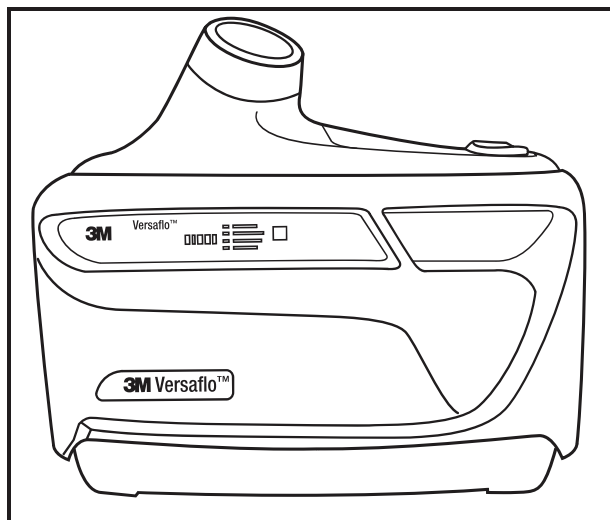

Fig. 14 3M™ Versaflo™ Powered Air Purifying Respirator TR-600 with filter/cartridge label visible
- If the filter cover is used, the filter/cartridge label must be visible in the filter cover window (Fig. 14).